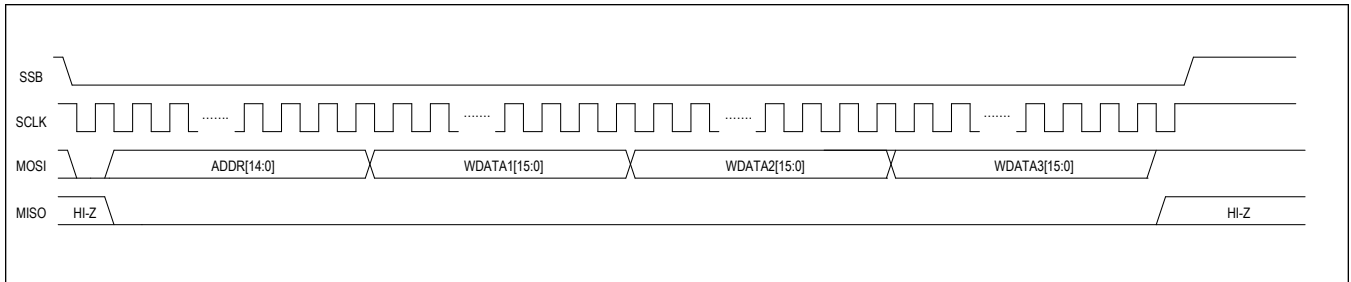

Figure 9. SPI Burst Write Diagram
The IC supports a Burst Write capability. As shown in Figure 9, the host processor sends a write bit (0), followed by a 15-bit address. Afterwards, the host processor can continue to send 16-bits of data to the IC, which auto-increments the register address and writes the data to subsequent register addresses. The exception to this is the FIFO_WRITE_PORT register. For this register, the purpose is to continuously write data to the FIFO, so the auto-increment feature is disabled when burst writing to this register.